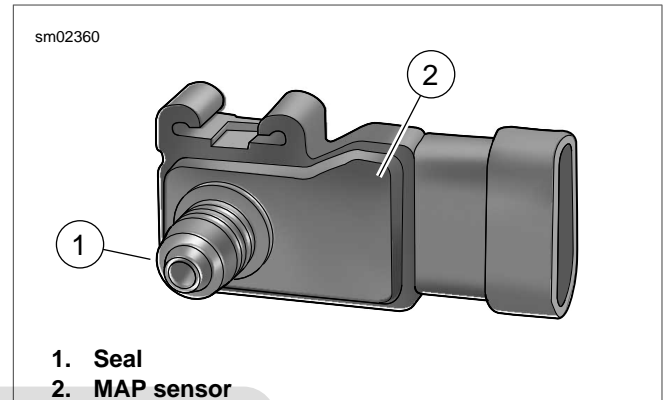

Figure 4-25. MAP Sensor
See Figure 4-25. If the original sensor is re-installed, the seal (1) must be inspected. Seals not in good condition could cause vacuum leaks. Install **new** seal if necessary.